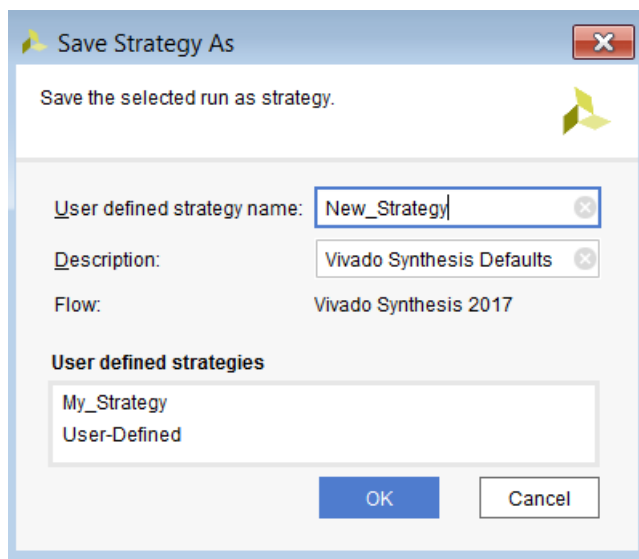

Figure 1-3: Save Strategy As Dialog Box
1. In the **Settings** dialog box > **Synthesis**, select an existing run strategy and modify options, and the **Save Strategy As** button . The Save Strategy As dialog box opens, as shown in Figure 1-3.